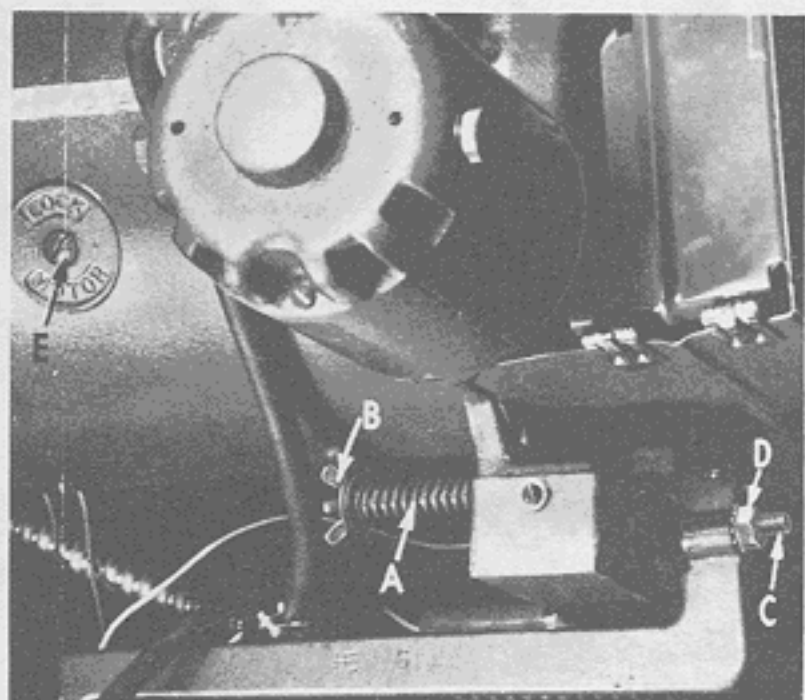

Fig. 38
2. Adjust clutch arm spring (A, Fig. 38) so that treadle will return to stop (wing nut washer (B) is to be approximately  $1/2$  inch from end of stud).